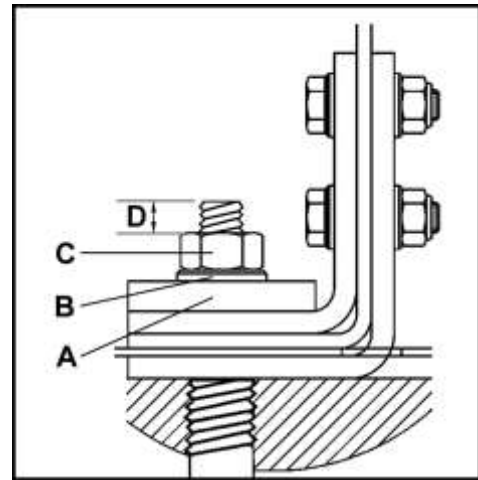

Fig. 2.5
Fit the securing washer (Fig. 2.5/A), the safety washer (Fig. 2.5/B) and the nut (Fig. 2.5/C) onto each bolt and tighten the nut until there is approximately **1/2 in** (10mm) of free thread protruding above the nut (Fig. 2.5, value **D**).
**THE FLAT WASHERS ARE ESSENTIAL IN MAKING A SECURE BOLTING DOWN OF THE WASHING MACHINE** (Fig. 2.5/A and B).